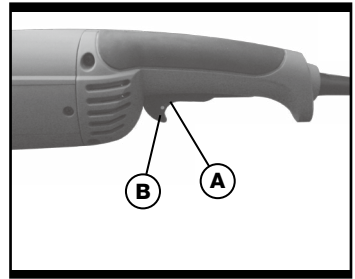

Fig. 1
1. LOCK-OFF SWITCH(See Fig. 1)